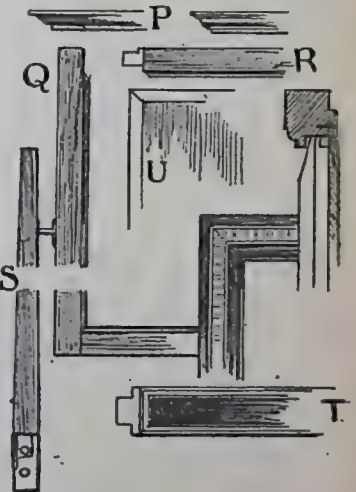

FIG. 4.—DETAIL OF UPPER PART.
THE SHAVING GLASS.—Shaving stand mirrors are often shield shaped or circular, or may be oval, but as a framing of straight sides will be simpler to work a pier-shaped mirror about 13 $\frac{1}{2}$ ins. by 10 $\frac{1}{2}$ ins. is sketched. For this the capping mould (P, Fig. 4) can finish $\frac{3}{8}$ in. or $\frac{1}{2}$ in. The mirror frame will require two stiles (Q) 15 ins. by 1 $\frac{1}{2}$ in. by $\frac{3}{4}$ in. and two rails (R) 12 ins. by 1 $\frac{1}{2}$ in. by $\frac{3}{4}$ in. to be mortised and tenoned together, with ovolo moulded edge if desired, and rebated for glass. The latter (U) should be bevelled 1 in., and can be wedged into the rebate or loosely held by small